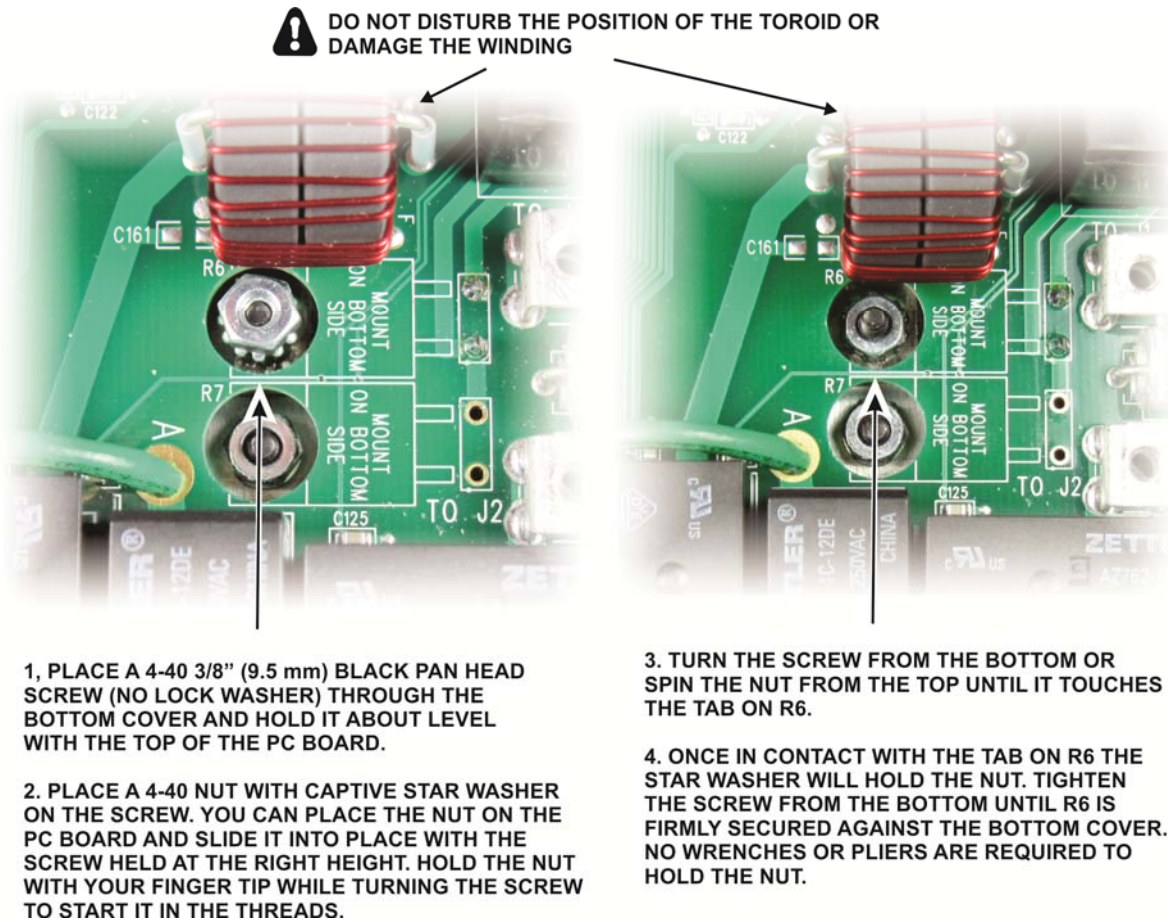

Figure 15. Installing the R6 Mounting Hardware.
- Turn the assembly over so the pc board is on top and install the R6 mounting hardware as shown in Figure 15 to secure R6 against the bottom cover.